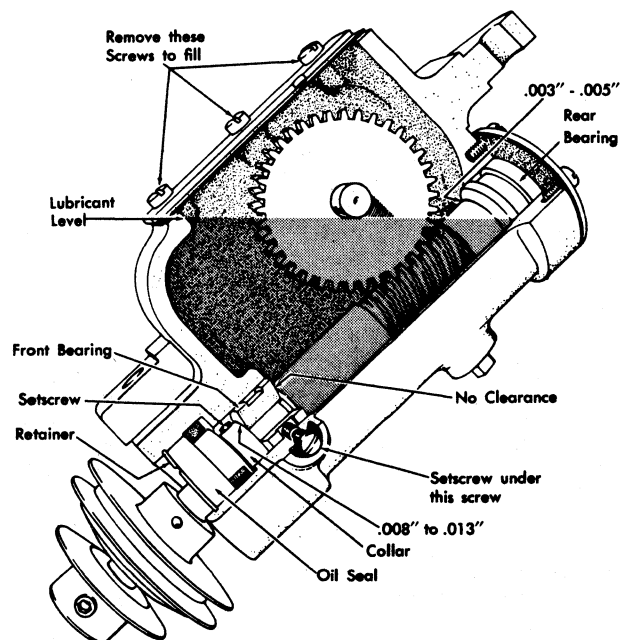

Figure 11. Reduction Drive Adjustment
1. With worm shaft removed from housing, place front bearings on shaft against the shoulder. Install collar and lock it in place with .008-inch to .013-inch clearance to the bearing. See Figure 11.